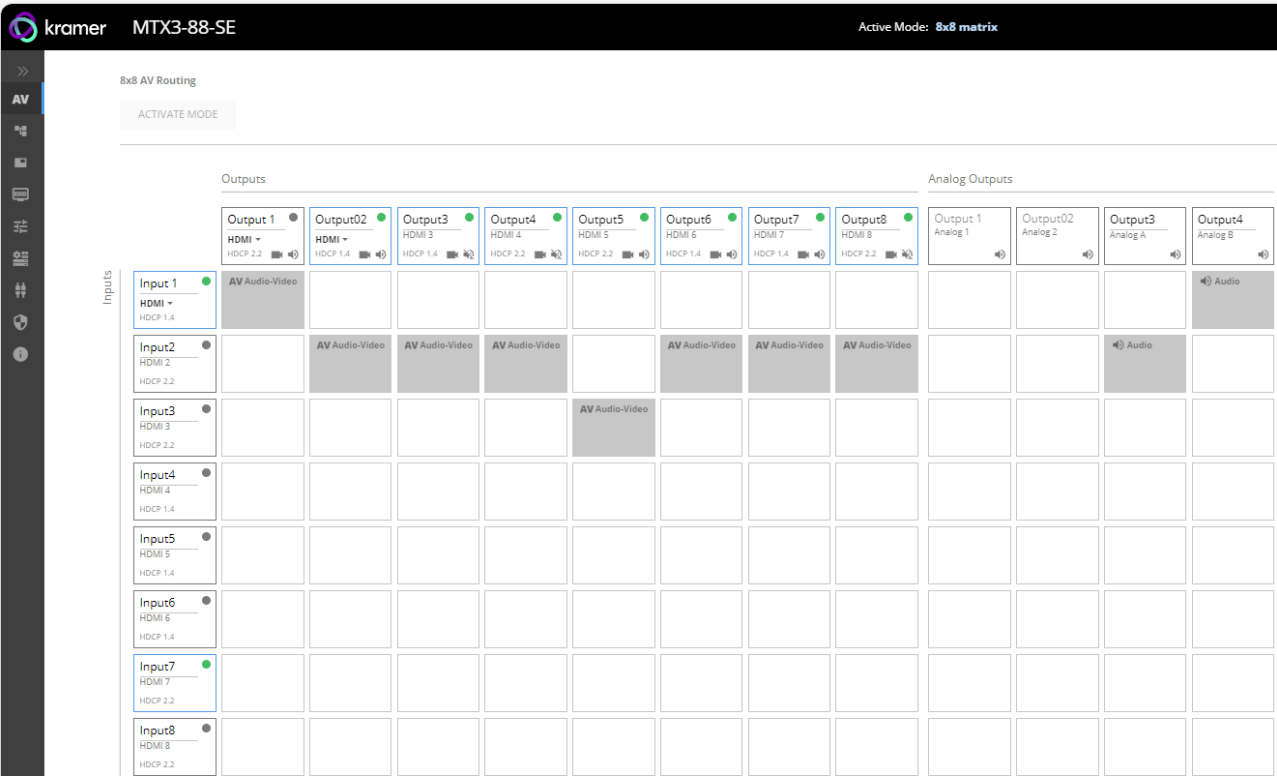

Figure 14: AV Landing Page
- Select the desired operation page from either **8x8 AV Routing** (for matrix mode) or **Multi View** (for multi-view mode) pages. The selected operation and settings page of the desired operation mode appears (Figure 14 or Figure 23)